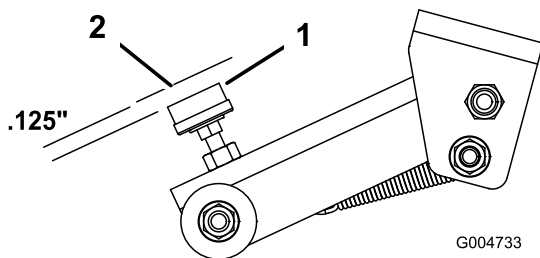

Figure 78
4. Clearance between adjustment screw rubber (Figure 78) cushion and deck latch should be .125 inch. If an adjustment is required, loosen nut on adjustment screw, adjust screw until required clearance is attained and tighten nut.